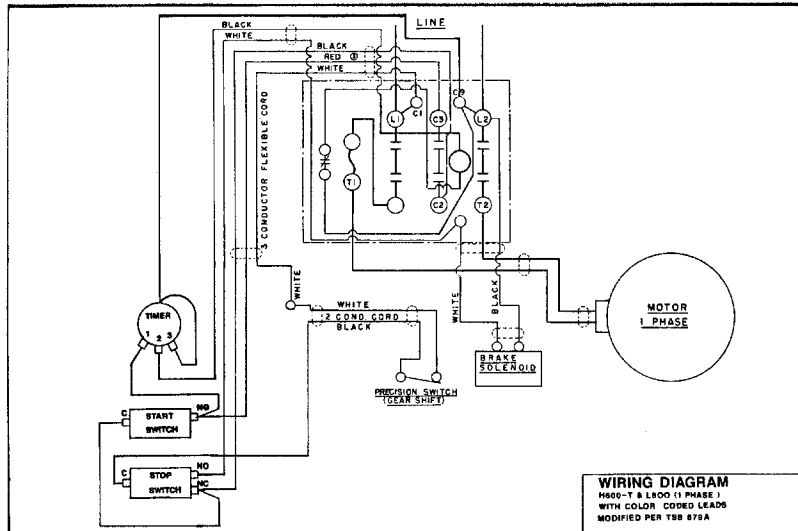

Fig. 5
B. Connect the leads, refer to Fig. 5, to the new switch plate assembly as follows: